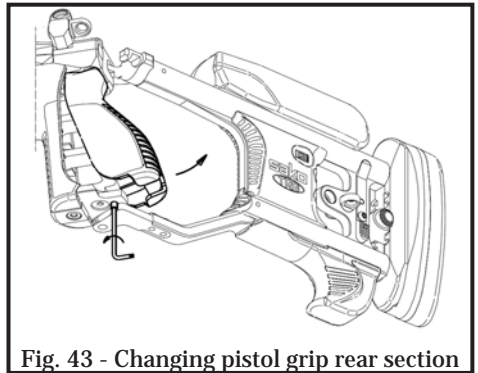

Fig. 43 - Changing pistol grip rear section
3. Remove the pistol grip rear section by pulling out the bottom part first (Fig. 43).